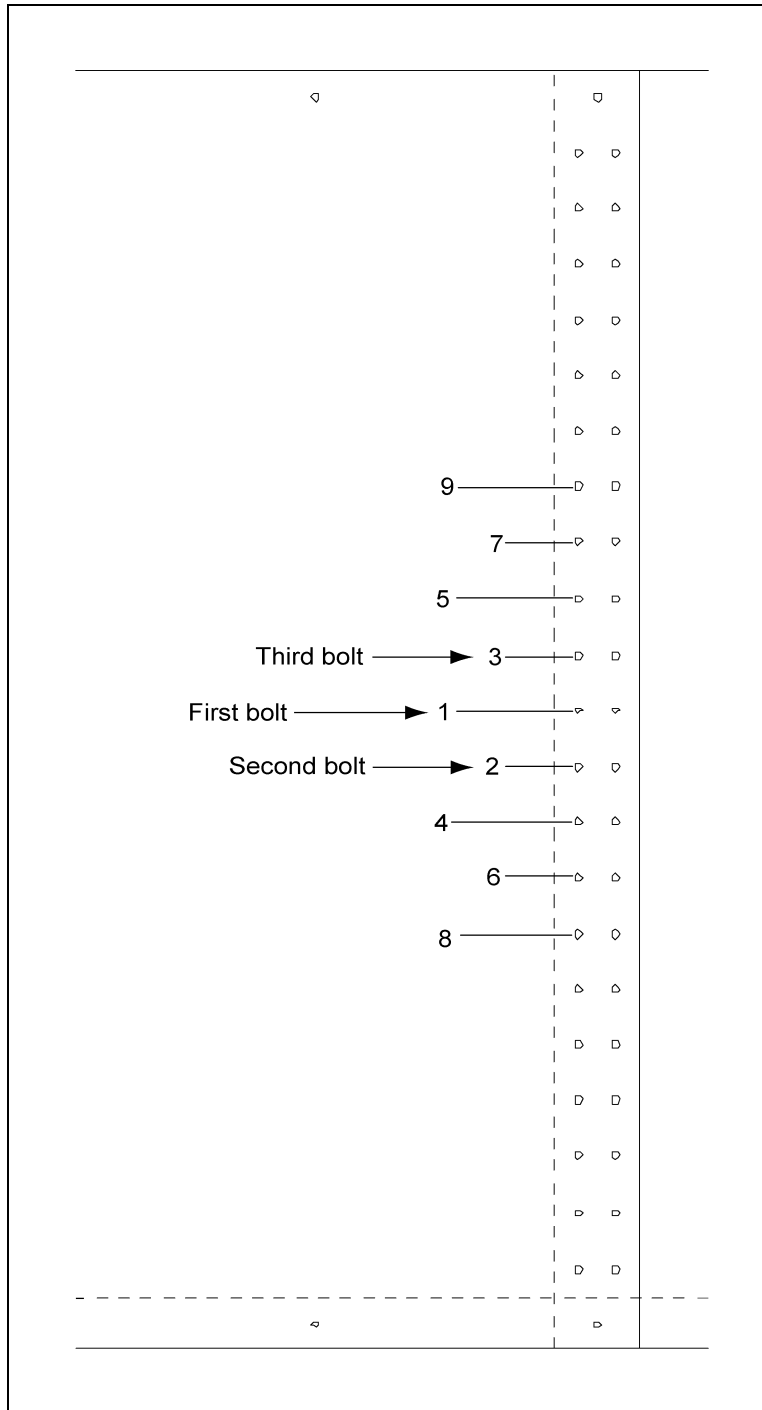

Figure 9B Tighten Bolts in Order
4. Now tighten the bolts in sequence, starting from the center and working to the edge in both directions. This permits the sidewall sheets to draw-up evenly. Complete one ring and stop. (See Figure 9B on Page 35.) Tighten from the nut side.